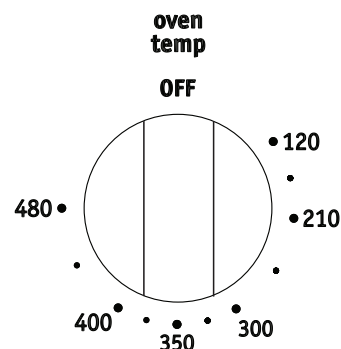

Figure 14: Oven temp knob
4. Turn the **oven temp** knob to the desired temperature position (Figure 14).
2. Turn the **oven temp** knob to the desired temperature position (Figure 14). For optimum results, preheat broil for 2-to-5 minutes before adding food.